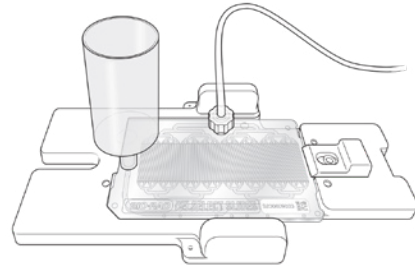

Fig. 26. Assembled slide station ready to have sample added to inlet funnel.
1. Add sample to the inlet funnel of each slide station (Figure 26).